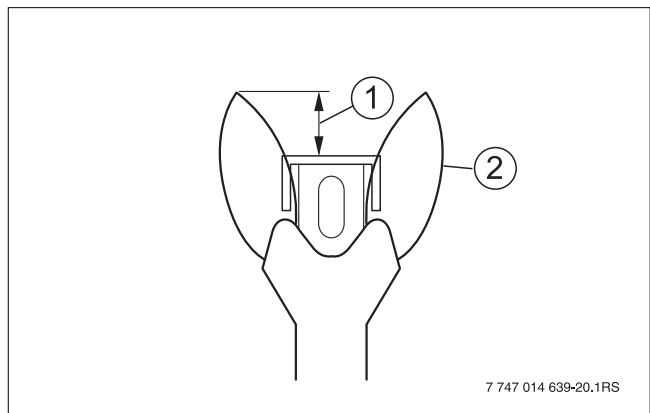
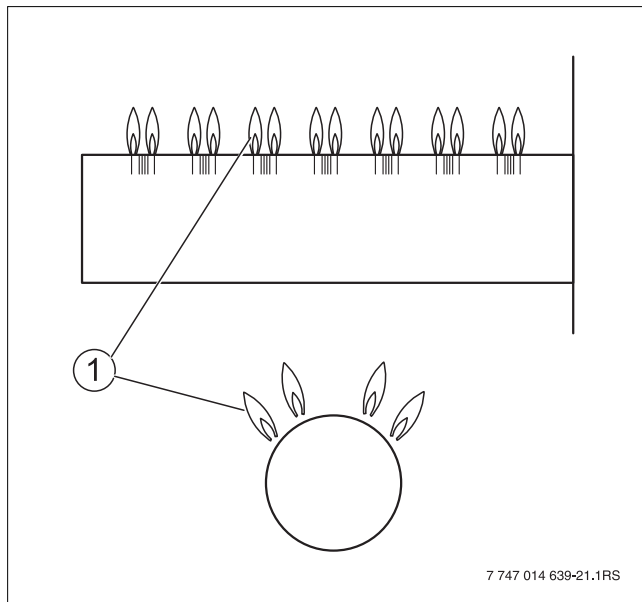

Fig. 12 Correct pilot flame setting
Fig. 13 Main burner
- ▶ The flame must envelope the flame rod 1/2 to 1 1/2 Inches (15 to 40 mm) (→ Fig. 12). If this is the case, continue with Chapter 4.3.4, page 11.
The main burner flame (→ Fig. 13) and the ignition flame (→ Fig. 12, page 10) are extinguished.